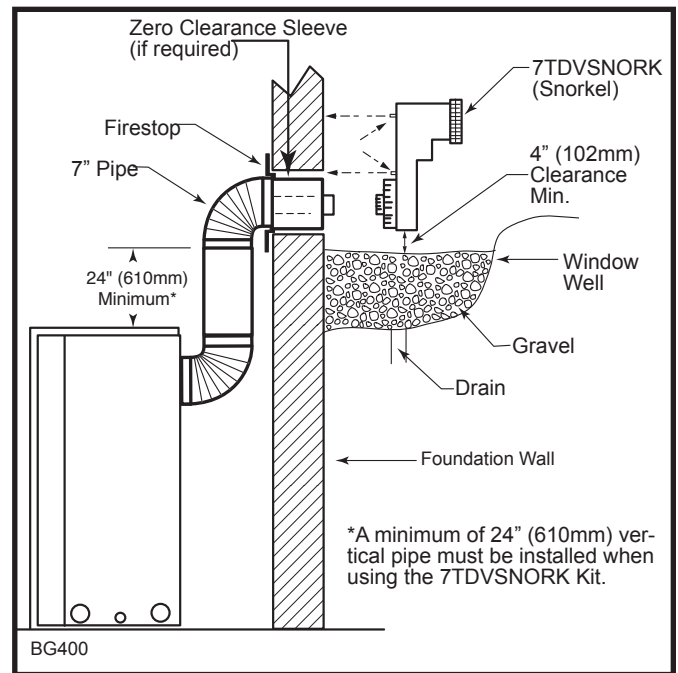

Fig. 32 Below grade installation.
2. Remove soil to a depth of approximately 16" (406mm) below base of snorkel. Install drain pipe. Install window well (not supplied). Refill hole with 12" (305mm) of coarse gravel leaving a clearance of approximately 4" (102 mm) below snorkel. (Fig. 32)
7. Level the soil to maintain a 4" (102 mm) clearance below snorkel. (Fig. 32)